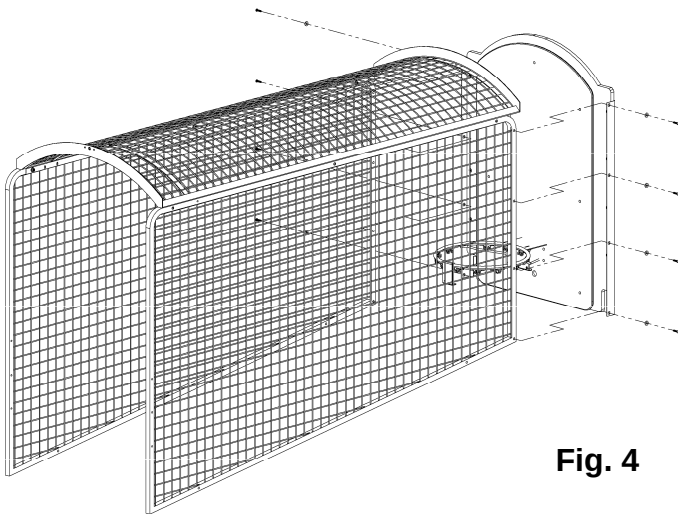

Fig. 4
8. Attach the backboard assembly to the cage framework using (8) 1/4-20 x 1" button head screws and (6) flat black washers. (See Fig. 4)